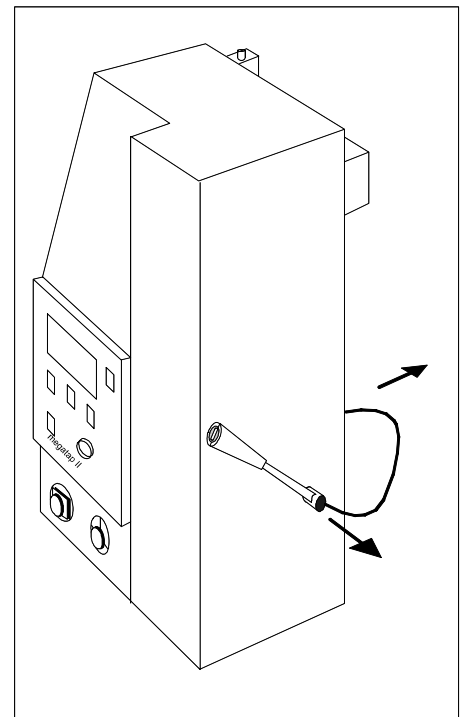

Fig. 5-1 Operating lever
3. Disconnect the cable of the operating lever from its receptacle at the rear of the work head (see Fig 5-1).
4. Disengage the operating lever axially by pulling outwards from the machine housing (see Fig 5-1).